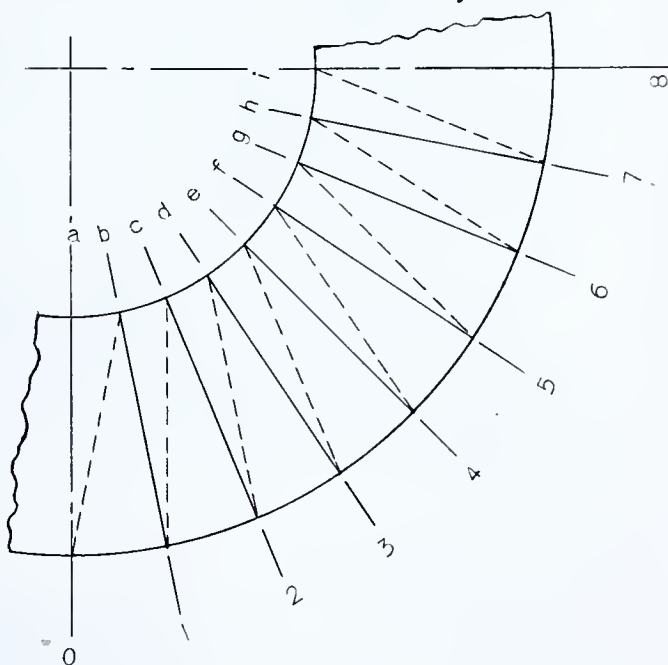
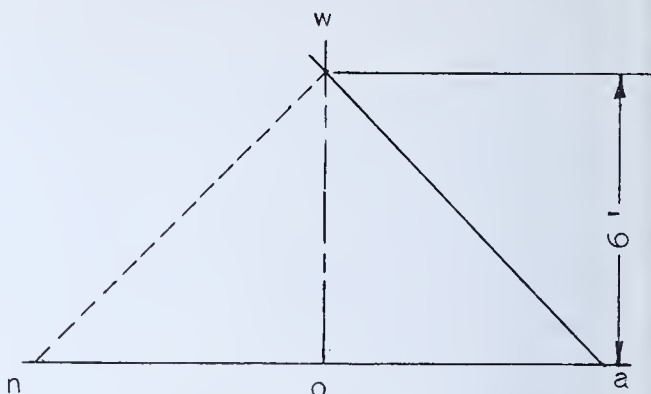

FIG. 304 — Circumference Divided Into Eight Equal Spaces
FIG. 305 — Steps 4, 5, and 6
2. Divide one-fourth of the circumference of the smaller diameter into eight equal spaces (Fig. 304).
3. Divide one-fourth of the circumference of the larger diameter into eight equal spaces (Fig. 304).
5. Erect a perpendicular at the center of the 7' line as shown at *o-w* in Fig. 305.
6. Measure off a vertical distance (*o-w*) 6' from the horizontal line. See Fig. 305, which shows the last three steps.
7. Number the intersections in Fig. 304, 0 to 8 and *a* to *i* as shown.
8. Set the trammels to distance *o-a* in Fig. 304.
9. Transfer this distance to Fig. 305, *o-a*.
10. Set the trammels to distance *o* (on the large diameter) to *b* (on the small diameter) in Fig. 304.
11. Transfer this distance to dotted line *o-n* (Fig. 305).
15. Set the trammels to distance *w-a* in Fig. 305.
18. Set the trammels to distance *n-w* in Fig. 305.
23. Continue setting the trammels to distance *w-a* and *w-n* in Fig. 305 and use the divider settings given in Fig. 304.